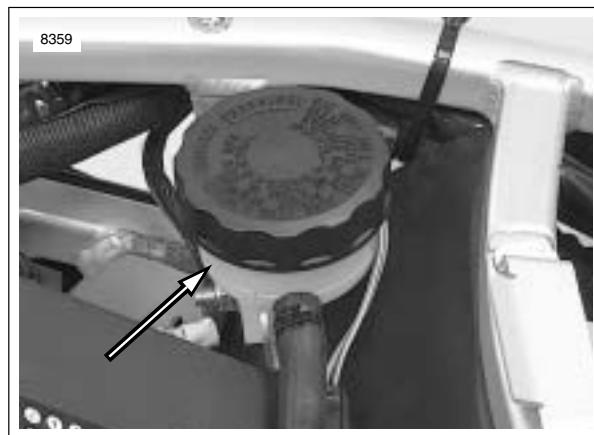

Figure 1-11. Rear Master Cylinder Reservoir
3. See Figure 1-11. Remove cap and gasket from rear master cylinder reservoir.